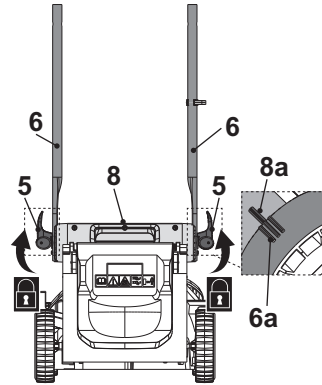

Fig. 2
3. Secure the lower handle bars (6) by folding up the clamp levers (5) towards the lower handle bars (6). If the clamp lever (5) cannot be folded, loosen it and fold again. If it is too loose, tighten it by turning the clamp lever (5) clockwise (Fig. 2).
6. Attach the washer (5a) and screw in the clamp lever (5) clockwise through the thread of the mounting bolt (5b), lock it by folding up the clamp lever (5) towards the handle. If clamp lever (5) cannot be folded, loosen it and fold again. If it is too loose, tighten it by swinging the clamp lever (5) (Fig.2, step 3).
7. Do it again on the other side. Make sure that the interconnection cord (18) run on the upper side of the handle bars (4, 6).
**NOTE:** There are two handle height positions in the upper handle bar (4). Ensure the upper handle bar (4) is assembled on the same height level on both lower handle bars (5).